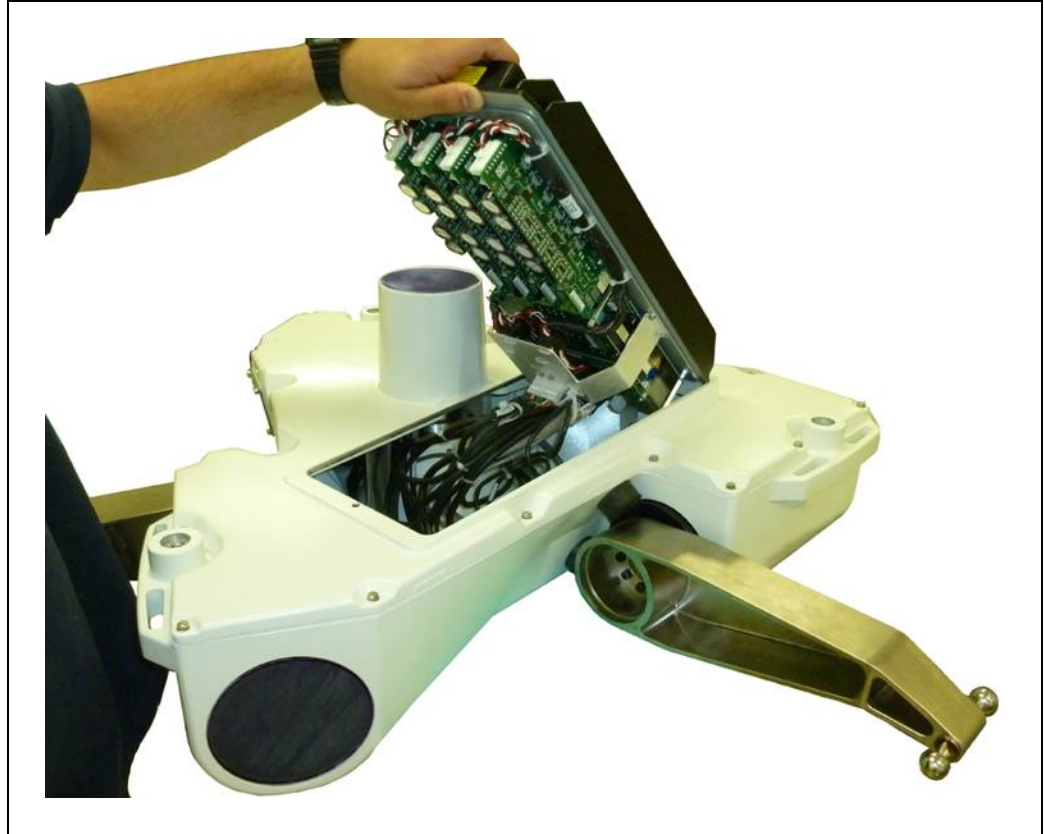

Figure 7-17. Securing Screw on eAIB Chassis
7. Once the chassis is in place, use a 5 mm hex wrench to tighten the chassis securing screw. See Figure 7-17.